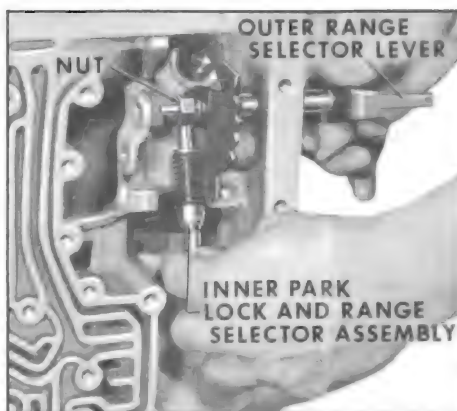

Figure 5-162
4. Slide outer range selector lever out of case. Remove nut, inner park lock and range selector lever. See Figure 5-162.